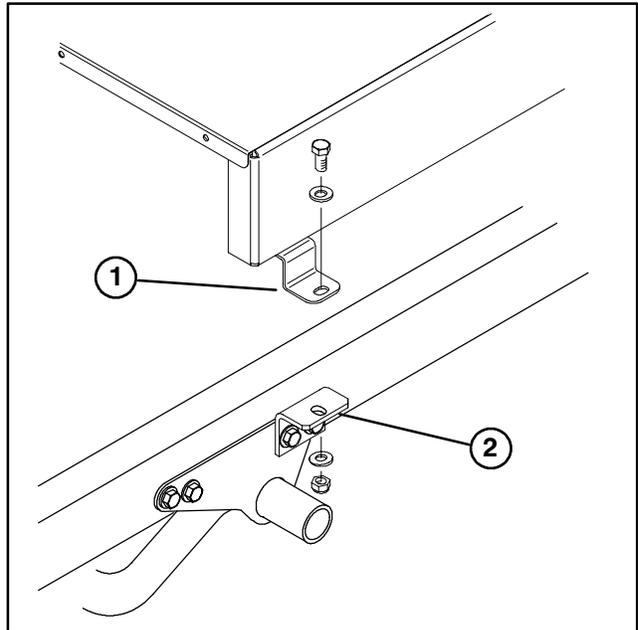
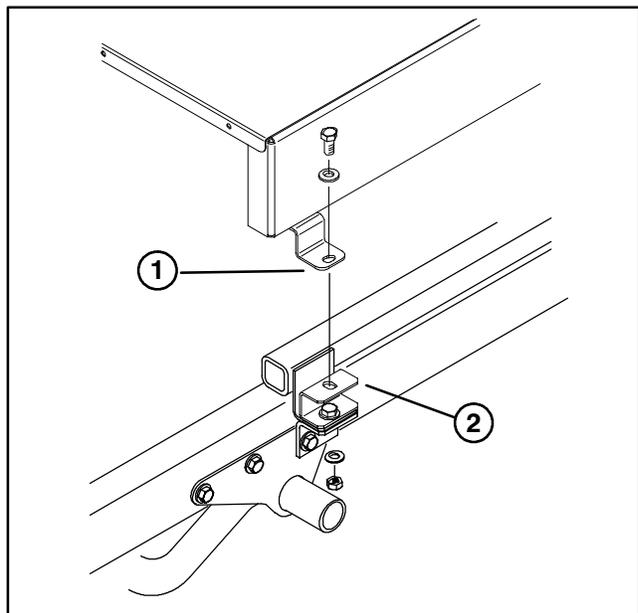

Figure 7
Figure 8
7. Loosely secure top of each attachment bracket (Fig. 7) or spacer mount (Fig. 8) to mounting tab on each side of topdresser with a 1/2-13 x 1" lg. capscrew, (2) flatwashers and locknuts. Tighten all fasteners.